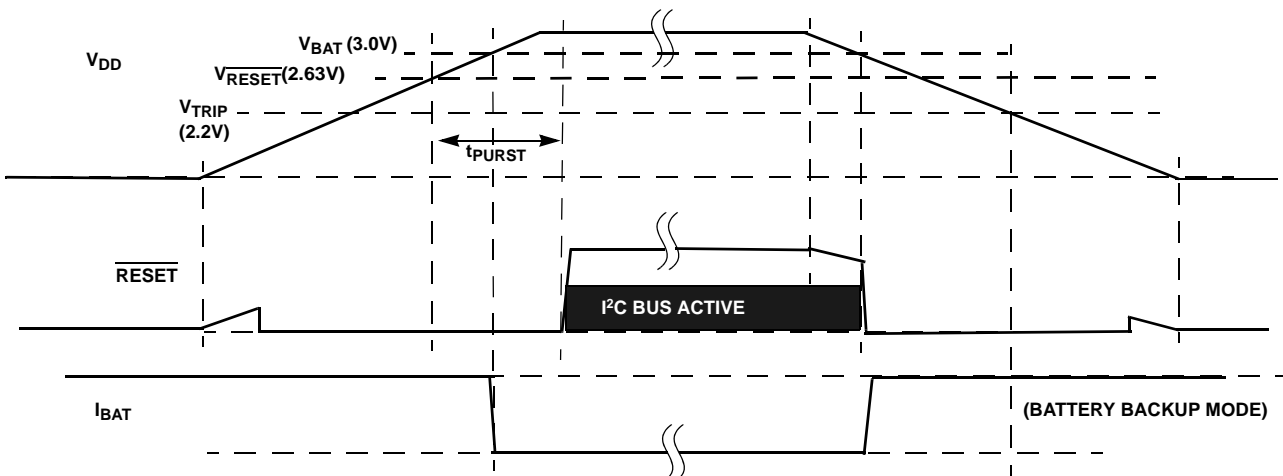

FIGURE 30. RESET OPERATION IN MODE D
- Mode D - In this mode, the selection bits indicate switchover to battery backup at $V_{DD} < V_{BAT}$, and no I²C communications in battery backup. This mode is unique in that there is I²C communication as long as VDD is higher than V $\overline{\text{RESET}}$ or VBAT, whichever is greater. This mode is the safest for guaranteeing I²C communications only when there is a Valid VDD (see Figure 30).